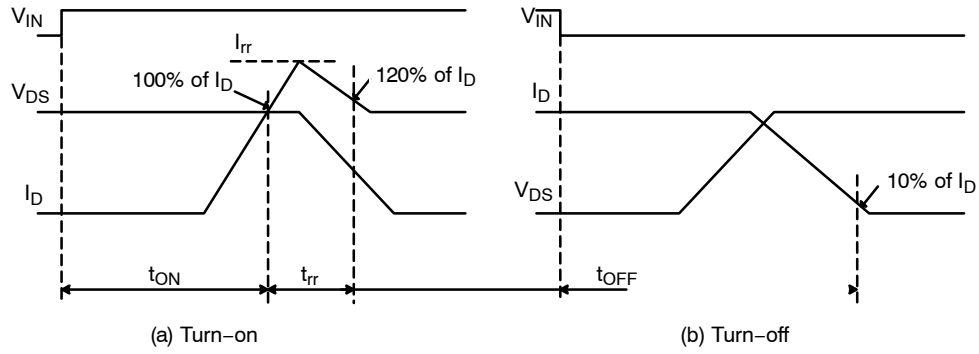
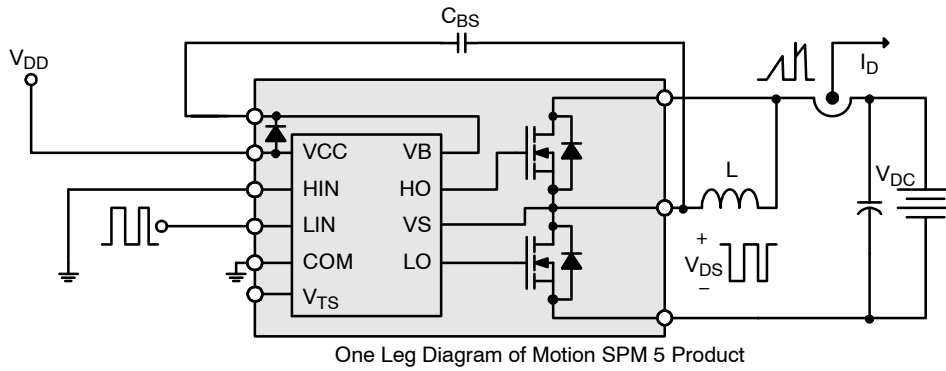

Figure 6. Switching Time Definitions
Figure 7. Switching and RBSOA (Single-Pulse) Test Circuit (Low-side)
5.  $t_{ON}$  and  $t_{OFF}$  include the propagation delay of the internal drive IC. Listed values are measured at the laboratory test condition, and they can be different according to the field applications due to the effect of different printed circuit boards and wirings. Please see Figure 6 for the switching time definition with the switching test circuit of Figure 7.
6. The peak current and voltage of each MOSFET during the switching operation should be included in the Safe Operating Area (SOA). Please see Figure 7 for the RBSOA test circuit that is same as the switching test circuit.